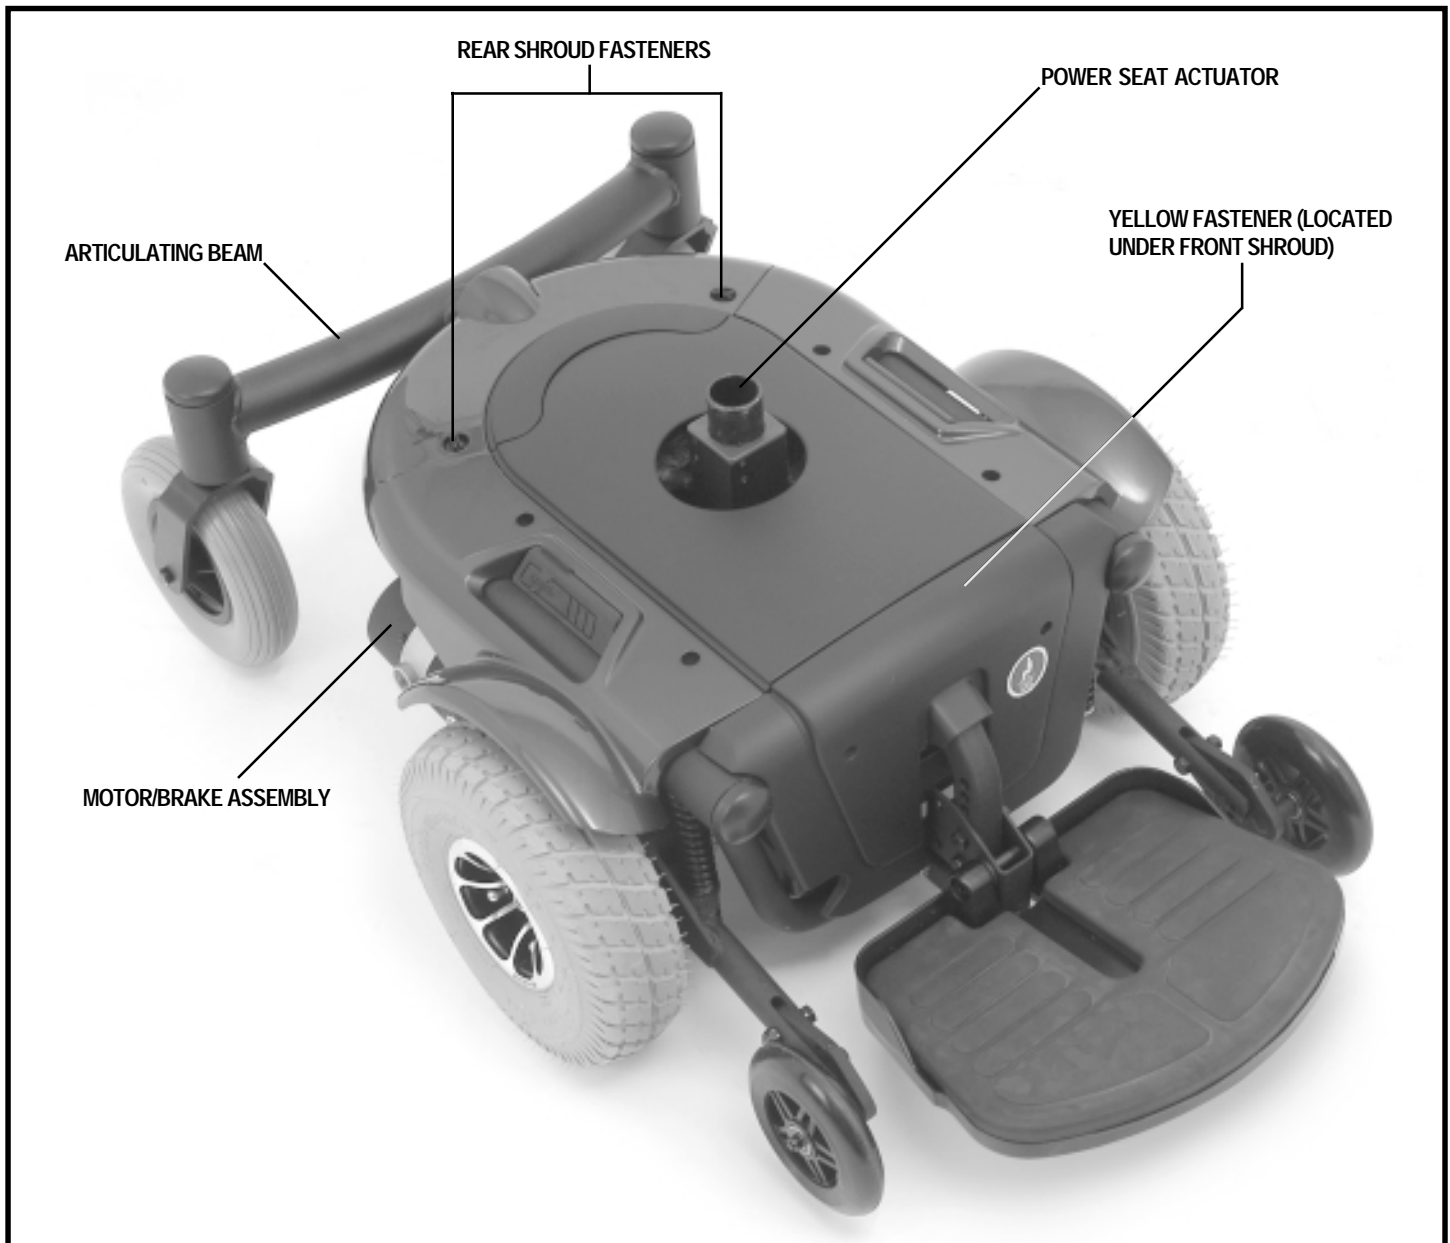

Figure 6. The Jazzy 1103 Ultra Power Base
2. Loosen the rear shroud fasteners and remove the rear shroud. See figure 6.